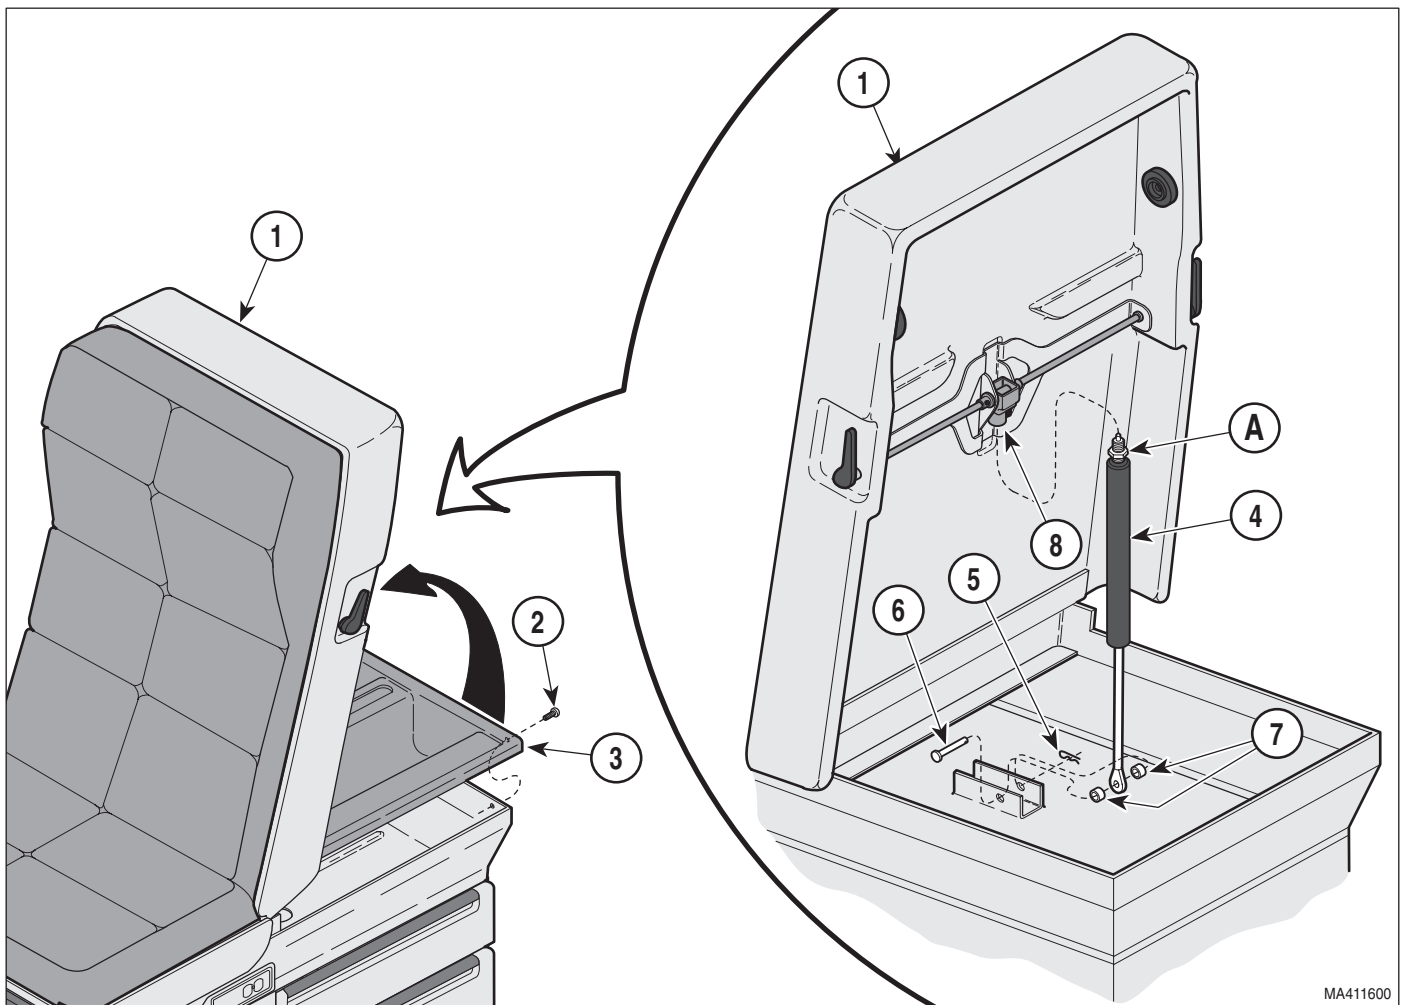

Figure 4-10. Back Actuator Removal / Installation
- (1) If possible, raise the back section (1, Figure 4-10) to its highest position.
- (2) Remove four screws (2, Figure 4-10) from paper storage (3) and raise the paper holder until access to the gas cylinder (4) is attained.
- (3) While supporting back section (1), remove the hitch pin (5), pin (6) and spacers (7) from the gas cylinder (4).
- (4) Remove gas cylinder (4) by unthreading (counter-clockwise) the cylinder from the actuator cap (8)